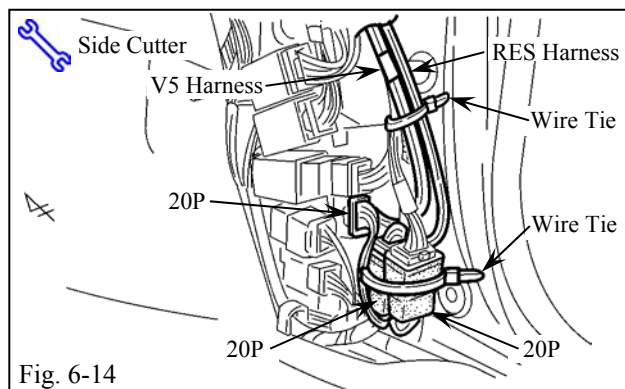

Fig. 6-14
- (u) Secure the V5 Harness and V4 Harness to the Vehicle Harness with 1 Wire Tie. Secure the blue 20P Connectors to the Vehicle Harness with 1 Wire Tie. (Fig. 6-14)